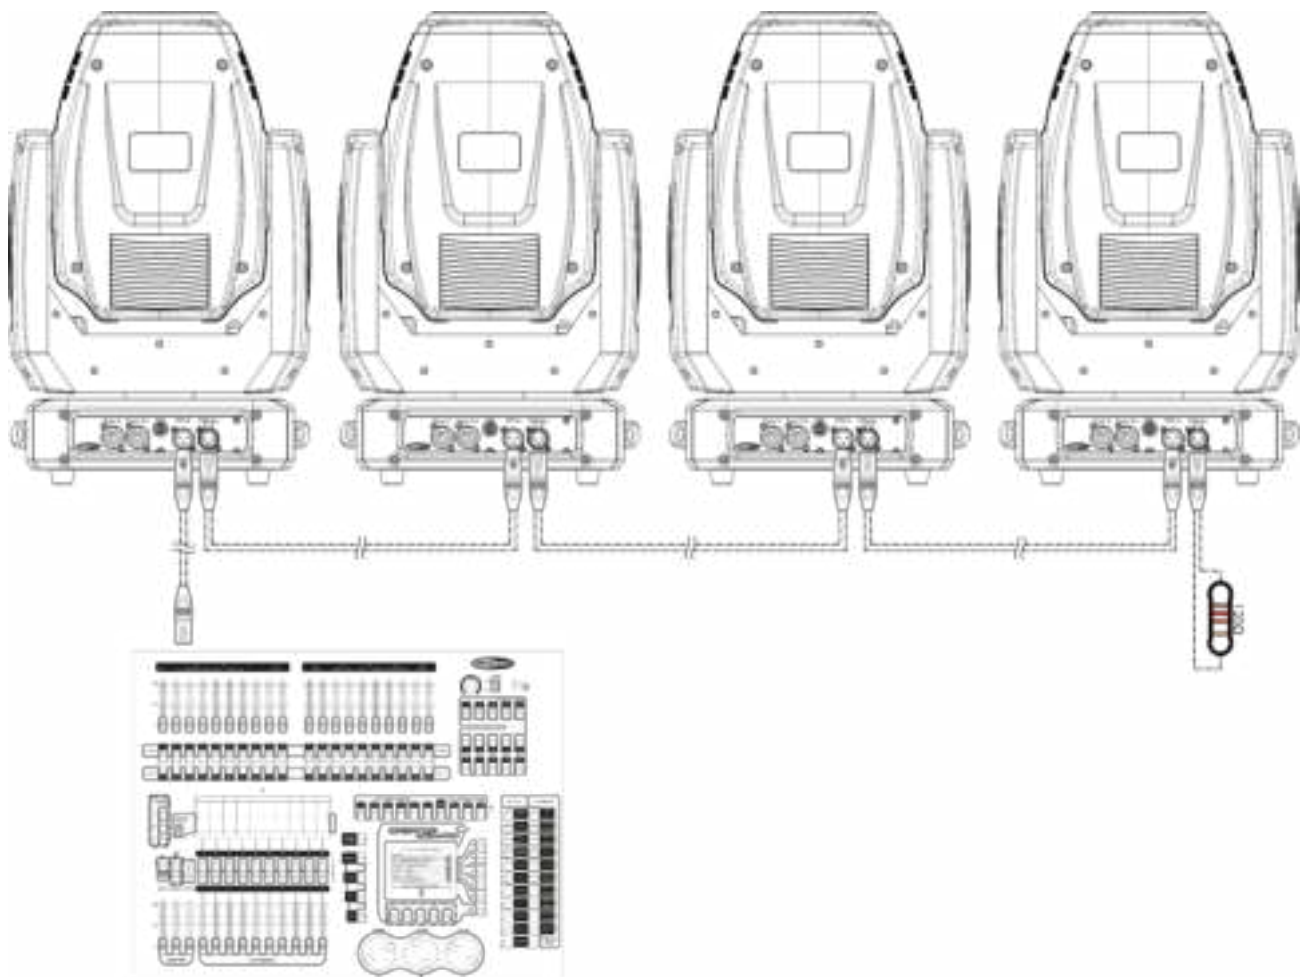

Fig. 09
- 04) Link the units as shown in fig. 09. Connect the first unit's DMX "out" socket with the second unit's "in" socket, using a DMX signal cable. Repeat this process to link the second, third, and fourth units.